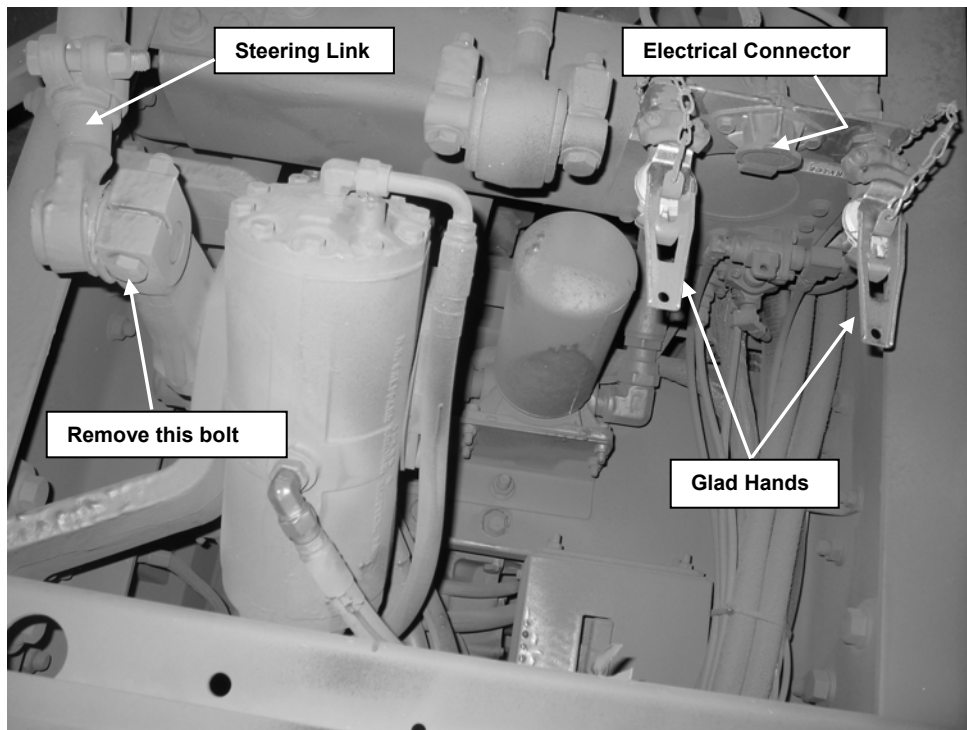

Figure 12. Removal of the Glad Hands and Steering Link.
- u) Remove the Electrical Connector and Glad Hands located under the front of the vehicle, as shown in Figure 12. This is done by removing the bolts and screws that attach these items to the adjacent vertical plate. Disconnect the airline hoses from the Glad hands.
- v) Disconnect the Steering Link from the Power Steering Arm. This is done by removing the bolt shown in Figure 12 and then pushing the connecting pin out of the hole in the Arm.